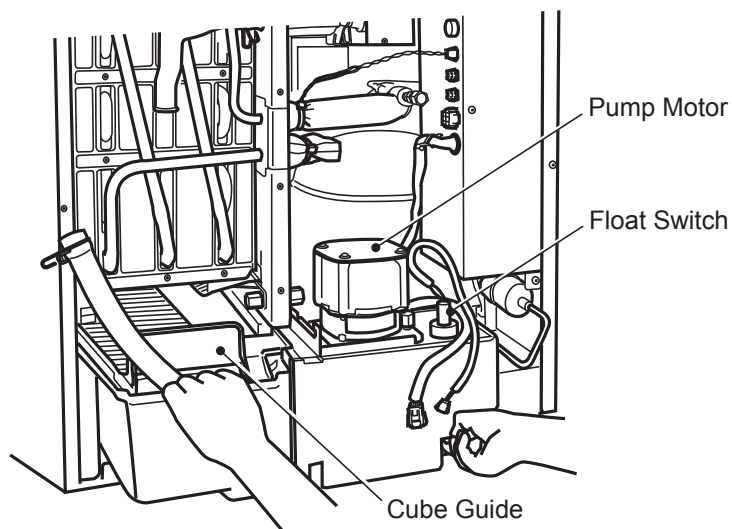

Fig. 4
- 6) Pull out the water tank, cube guide, pump motor bracket, pump motor and float switch together. See Fig. 4.